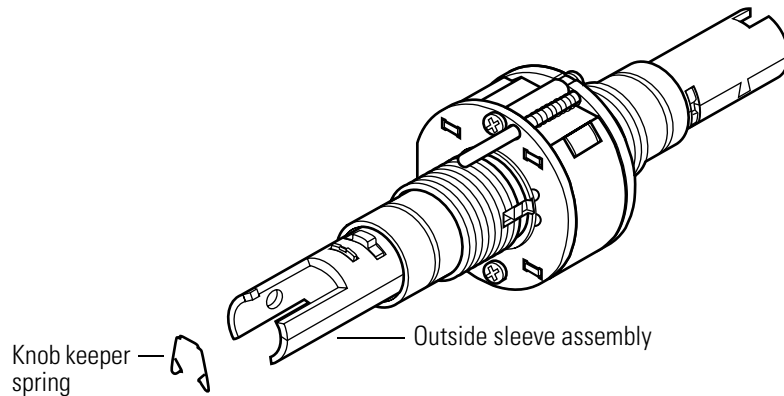

Figure 3.16 Positioning the knob keeper spring
1. Position the knob keeper spring as shown in Figure 3.16.